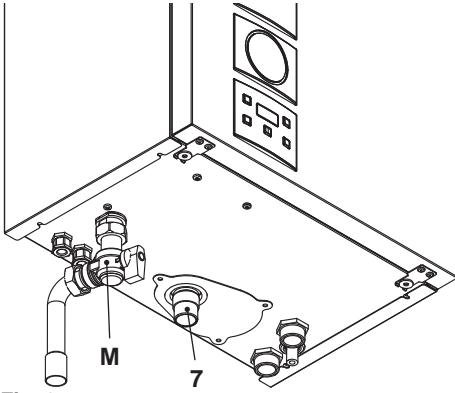

Fig. 6.7
- Fit the condensate drain 7(Fig. 6.7) in the drainage pipework.